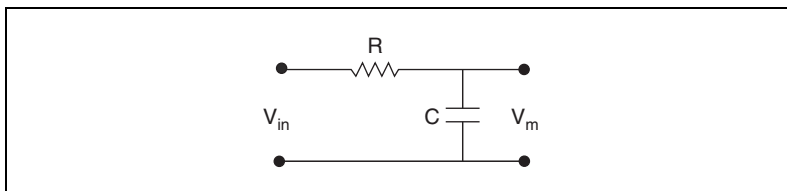

Figure 4-18. Simple RC Lowpass Filter
Figure 4-18 shows the transfer function of a simple series circuit consisting of a resistor (R) and capacitor (C) when the voltage across R is assumed to be the output voltage (V_m).
Using the circuit shown in Figure 4-18, you can use a two-component circuit to build a simple RC filter with analog input, analog output, or digital input.